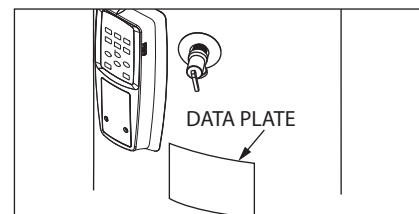

Figure 23 - The water heater’s electrical requirements can be determined from the data plate.
- 3 Check the hot water storage tanks data plate (Figure 23) and ensure that the home’s voltage, wiring size (ampacity) and circuit breaker rating and type are correct for this hot water storage tank. Refer to the wiring diagram located on the water heater, and on page 33 of this manual, for the correct electrical connections. Ensure that it is a common three prong outlet.